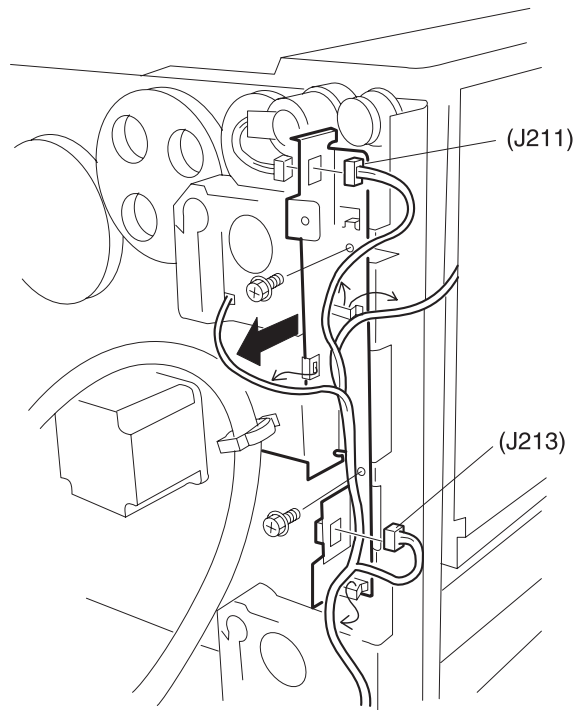

Figure 2
8. Disconnect J211 and J213 from the Bracket (Figure 2), and free the wire harness from the harness clips.